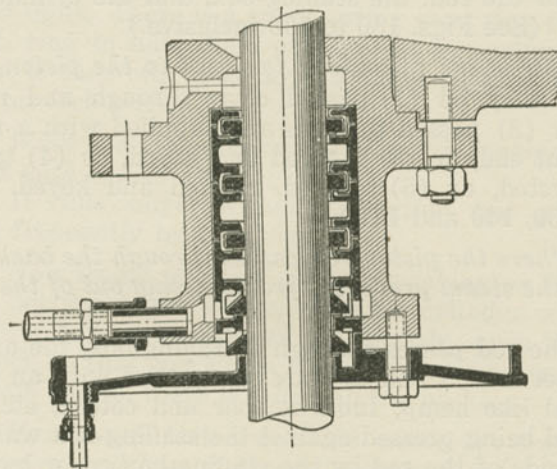

Fig. 143. Metallic Rod Packing.
A. Yes. (1) No engine with unbalanced cylinder action can be balanced against both vertical and horizontal shocks; (2) these balance weights increase the centrifugal or tangential force, especially at high speed, thus causing hammering.
A. (1) To the weight of those parts; (2) to the square of the rotation speed.
A. (1) By making the parts lighter; (2) by greater driver diameter.
A. The stuffing-box, as such, is absent. There are several metal rings, ground to fit the rod, and free to play radially between the lips of U-sectioned rings which closely fit the walls of the chamber; so that with any sidewise motion of the rod its rings, instead of pressing thereon, follow its movements and slide in the cavities of the inclosing box-rings. The steam pressure in the chambers of this packing varies with that in the cylinder itself. (Fig. 143.)